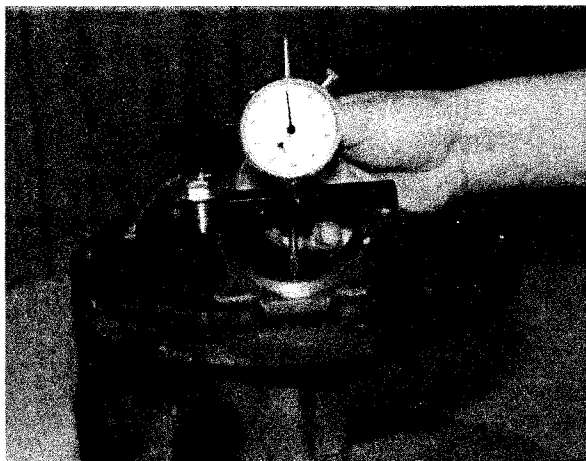
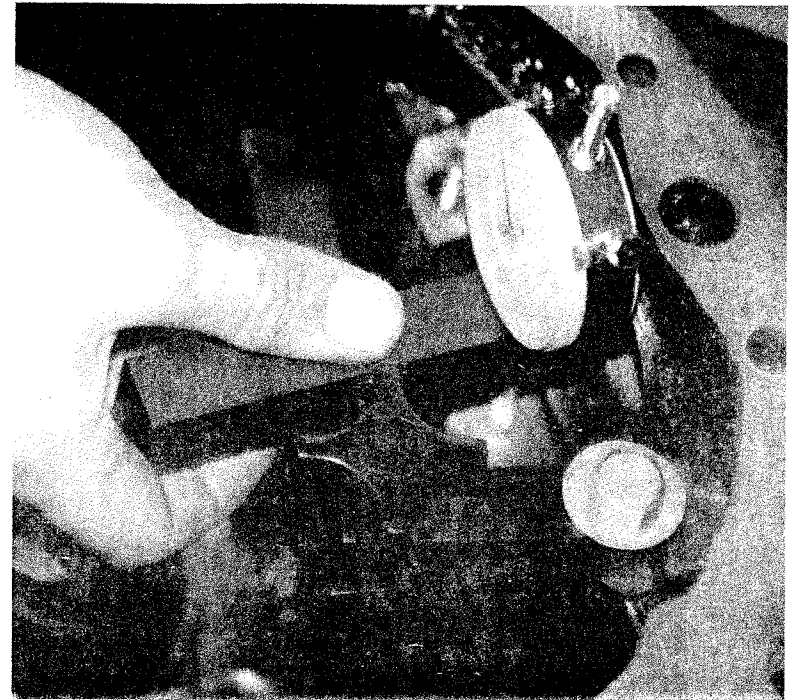

FIGURE 4
FIGURE 5
- A. Bolt the *Swing Bars* in place of the bearing cap as shown in Figure 5. Place the end of the outer *Swing Bar* adjacent to the other side of the bearing support.
7. Place the Indicator Holder firmly and squarely on the Swing Bar, and move the Indicator tip around in the carrier bearing bore (also referred to as the "saddle") to obtain the lowest Indicator reading as shown in Figure 4 and Figure 5. Read tenths of an inch with the small pointer, hundredths and thousandths with the large pointer. Record the Indicator reading.